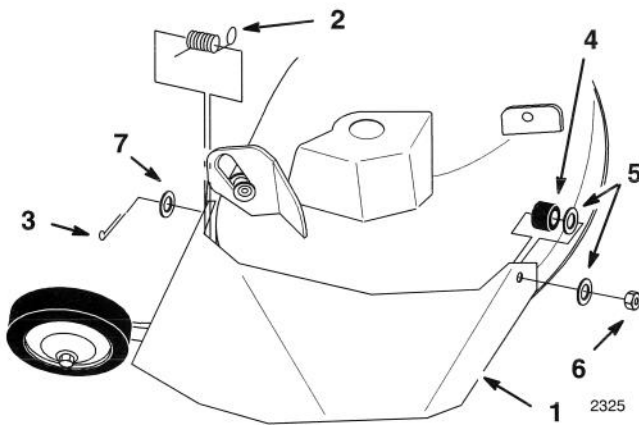

Figure 1
1. Locate items show (Fig. 1).
3. Position spring and discharge chute over post on rear of deck and secure with 1/2" (13 mm) washer and 3/4" (19 mm) cotter pin (Fig. 1).
5. Place discharge chute over stud and secure with second plastic washer and 3/8" jam nut (Fig. 1).